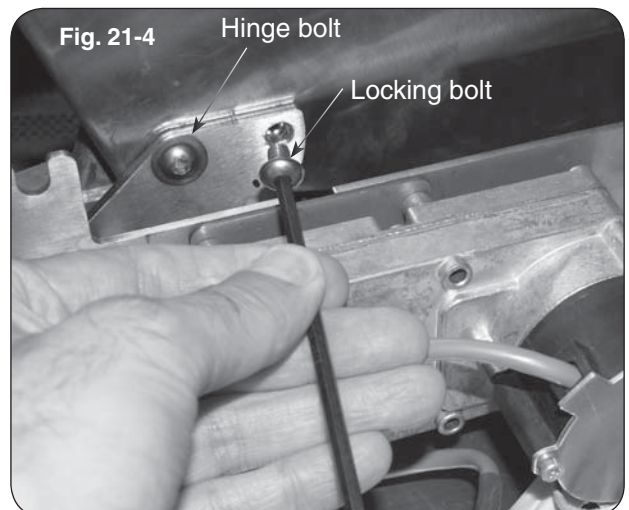

Fig. 21-4
3. Use the Allen wrench to loosen and remove the lid motor assembly locking bolt and washer (see Fig. 21-4).